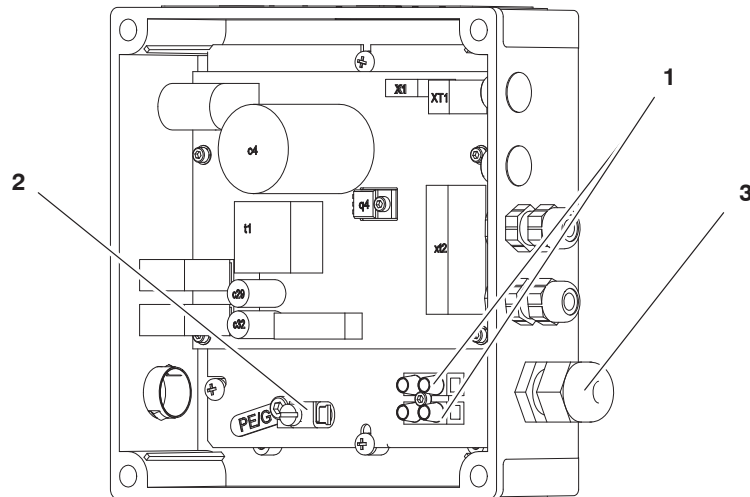

Figure 7 Connecting the customer-supplied power cord to the control box
1. See Figure 7. Thread a customer supplied 14–18 AWG power cord through the strain relief (3) into the control box.
2. Connect the wiring to the terminal blocks (1) and the ground wire connection (2) inside the control box.